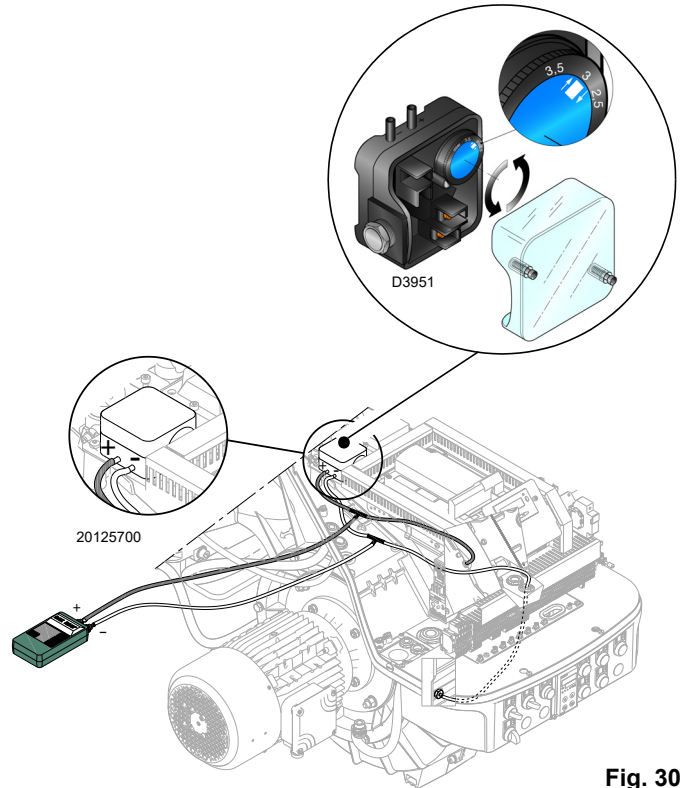

Fig. 30
- Adjust the air pressure switch to the zero position of the scale (Fig. 30 on page 30).
For the **RS 310-410-510** models, the air pressure switch is connected in absolute mode and is activated by the positive pressure from the fan (Fig. 30).
Adjust the air pressure switch (Fig. 30) after having performed all other burner adjustments with the air pressure switch set to the min. of the scale.